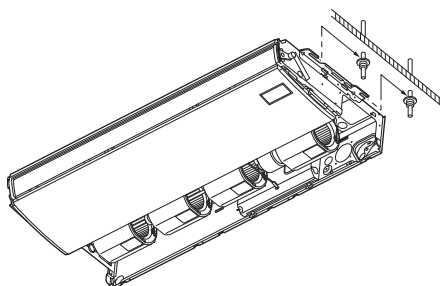

Fig. 3-14
- b) Lift the indoor unit, and place it on the washers through the notches, in order to fix it in place. (Fig. 3-14)